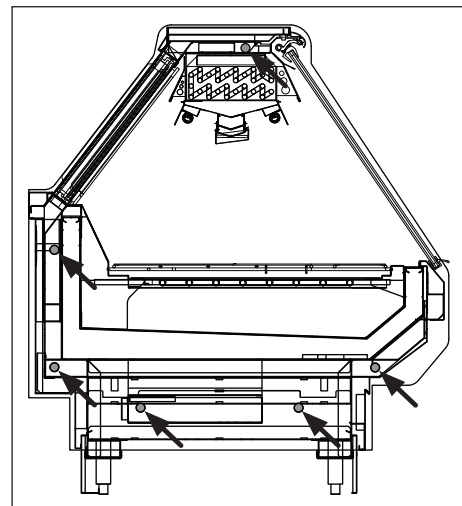

Fig. 4 Bolt locations
4. Push the cases tightly together, then lightly bolt them together through the holes provided (Fig. 4). Tighten all the joining bolts until all margins are equal. Be careful not to over tighten.